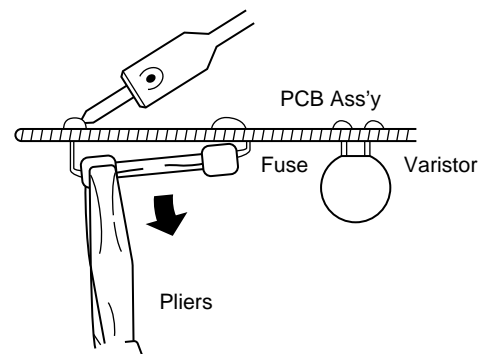

Fig. 20
2. Remove the fuse from PCB Ass'y using pliers while heating the soldered leads on the back side of the PCB Ass'y with a soldering iron (30W or 60W). (Fig. 20)